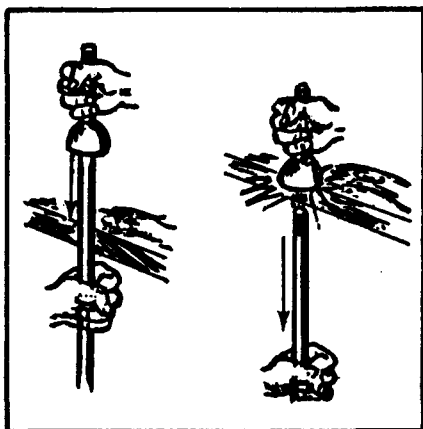

Fig. 3. Axle Shaft Disassembly
2. Grasp axle shaft as shown in Fig. 3. Rap face of joint sharply against a protected vise or edge of bench. This will cause axle shaft and joint retaining snap ring to contract which then permits shaft and joint to separate.